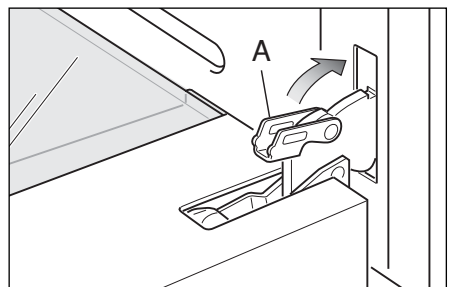

Fig.54d
- 4 **Unlock the oven door** by opening it completely and closing the lever "A" on the left and right hinges (Fig. 54d).